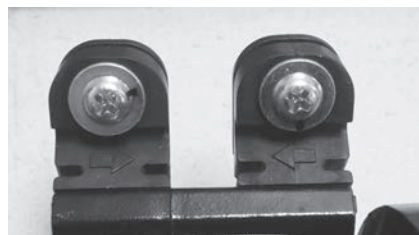

Figure 183 - Water pump gasket boot orientation
- 25** Remove the four (4) gasket boots with screws from the old water pump by sliding them out of the brackets. Note orientation of gasket boots for proper installation to new water pump. See Figure 183.
- 29** Dip the ends of the four (4) gasket boots in water and slide them into the brackets on the new water pump. The water will help gaskets slide smoothly into brackets. Directional arrows on gasket boots must be pointing inward toward one another. See Figure 183.